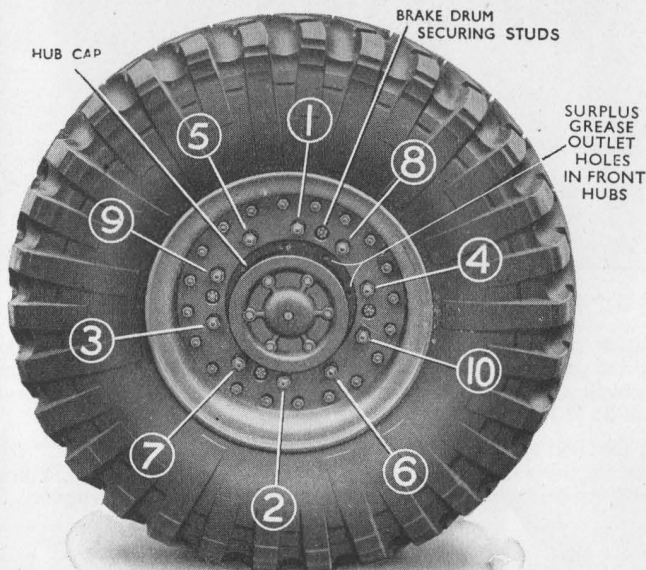

Fig. 39.
- (B) CHECK WHEEL MOUNTING AND TIGHTEN IF NECESSARY. When tightening wheel stud nuts, give each a few turns only at a time in the order shown in Fig. 39, until all are uniformly tight.
- (C) REMOVE OIL, TAR, FLINTS AND STONES FROM TYRES. Report undue or uneven wear, badly cut tyres and defective valves or fittings.
- (D) CHECK TOOLS, EXCHANGE DAMAGED TOOLS, MAKE GOOD DEFICIENCIES. Check against A and B schedules.
- (E) SEE THAT FIRE EXTINGUISHER IS FULL AND READY FOR USE. Place thumb over the outlet, turn handle to the left and operate the plunger just enough to feel that pressure is being applied. Lock handle by turning to the right, then shake extinguisher backwards and forwards to expel the small amount of charge released during the test. Check bracket and tighten fixing if necessary.
- (F) REPORT DEFECTS.